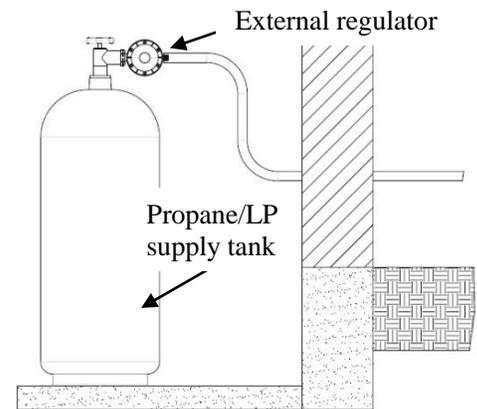

Figure 8 - External Regulator with Vent Pointing Down
**IMPORTANT:** Install an equipment shutoff valve in an accessible location where the gas pipe goes indoors. The equipment shutoff valve is for turning on or shutting off the gas to the appliance. Apply pipe joint sealant lightly to male threads. This will prevent excess sealant from going into pipe. Excess sealant in pipe could result in clogged heater valves. The installer must supply an external regulator with nominal outlet pressure of 11" water column and sufficient flow rates. Install external regulator with the vent pointing down as shown in Figure 8. Pointing the vent down protects it from freezing rain or sleet. If flexible gas hose is applied, it should meet the requirements of ANSI/UL569 Standard for Pigtail and Flexible Hose Connection for LP-Gas. Improper regulator and/or gas hose assembly may occur damage on your heater, property or/and personal body.